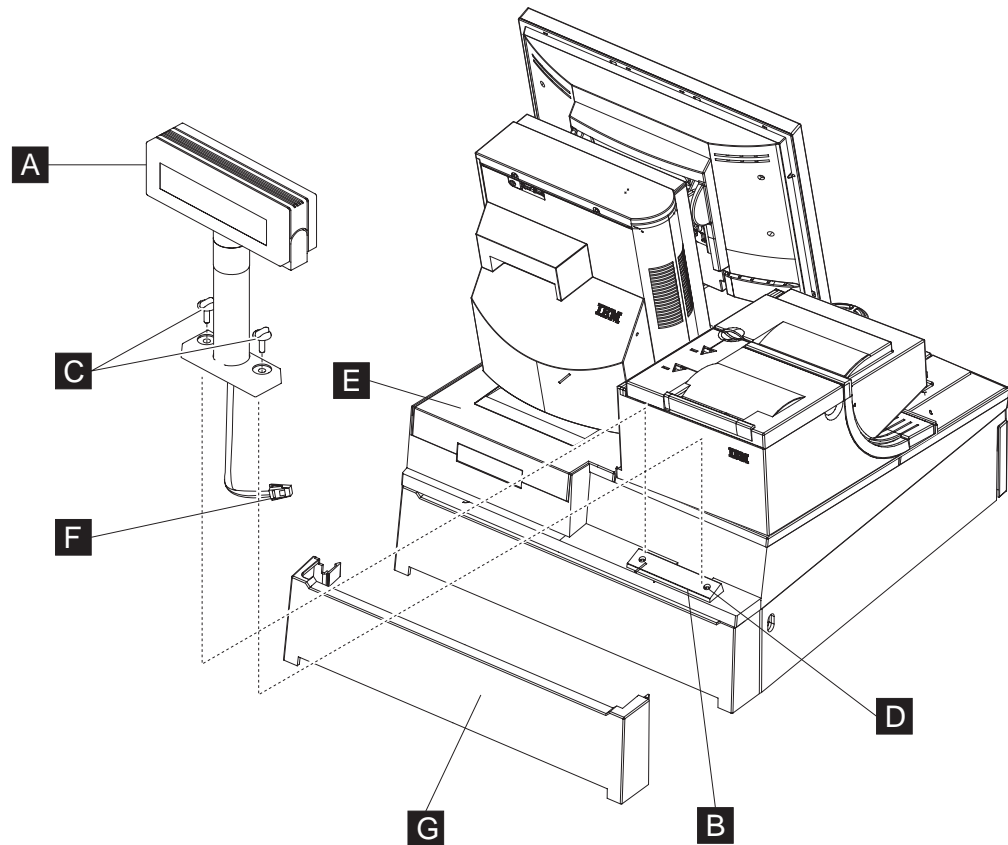

Figure 72. Installing the distributed customer display onto the integration tray
- a. Route the display cable **F** through hole **D**, as shown in Figure 72.